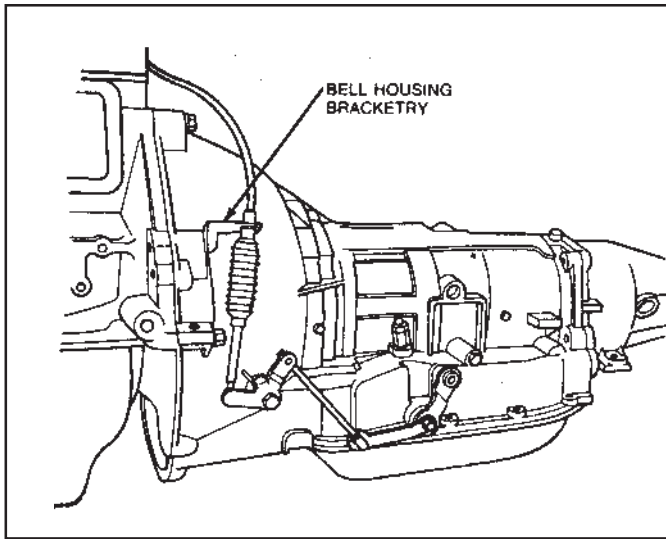

Figure 16
The throttle valve (TV) control cable system consists of a cable attaching grommet on the throttle body throttle lever, the TV control cable assembly, the external TV control lever on the transmission, and cable mounting brackets at the throttle body and transmission. (See Figs. 16, 17, 18 & 19.)